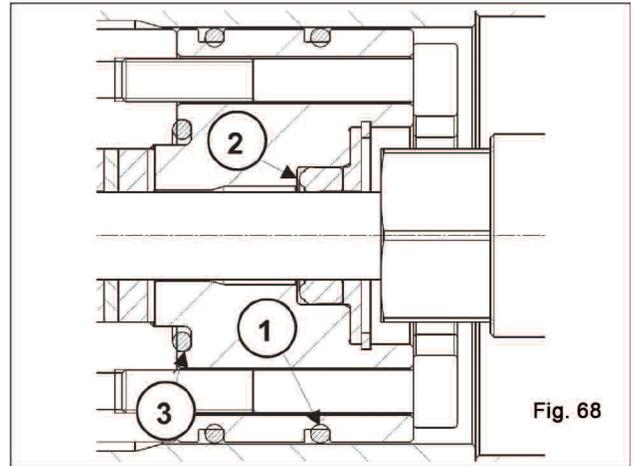
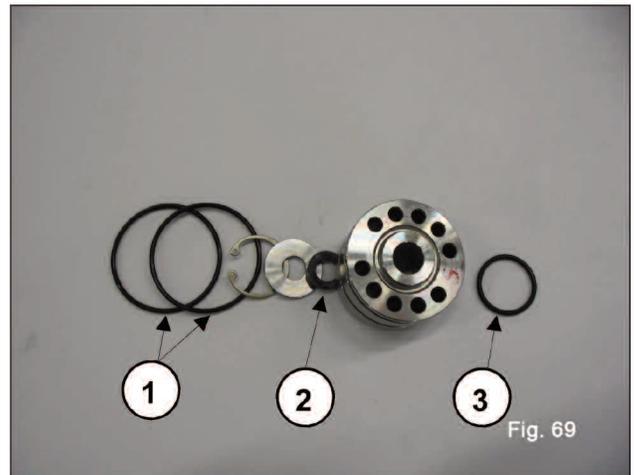

Fig. 68
Fig. 69
- Reassemble the seals support unit as shown in fig. 68 and fig. 69, replacing components 1, 2, and 3.